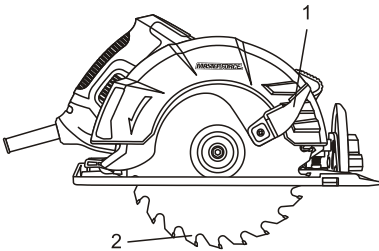

Fig. 1
3. Rotate the lower blade guard lever (1) clockwise toward the front of the saw and carefully place the saw on the corrugated with the blade teeth (2) resting on the cardboard (Fig. 1).